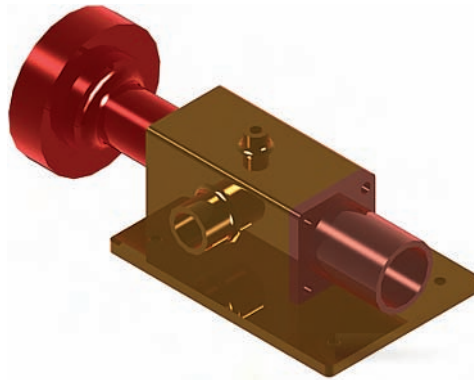
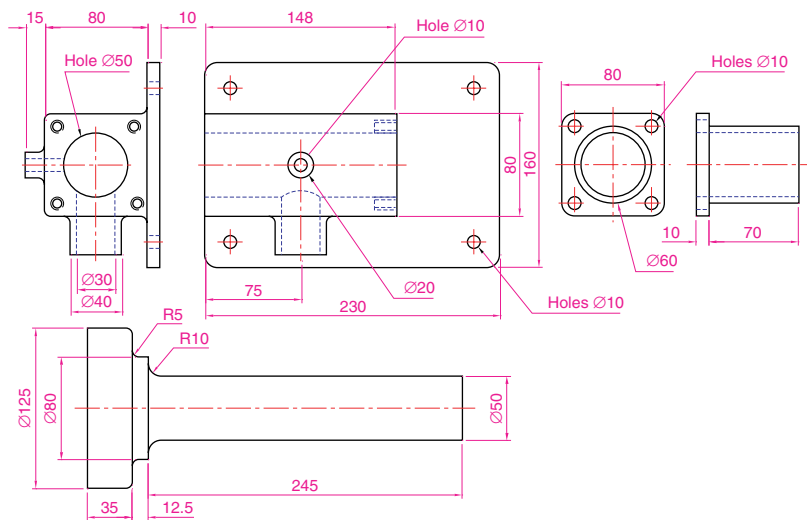

Fig. 19.28 Exercise 2
Fig. 19.29 Exercise 2 – details of shapes and sizes
- Working to the dimensions given in the orthographic projections of the three parts of the 3D model in Fig. 19.29, construct the assembled part as shown in the rendered 3D model in Fig. 19.28.